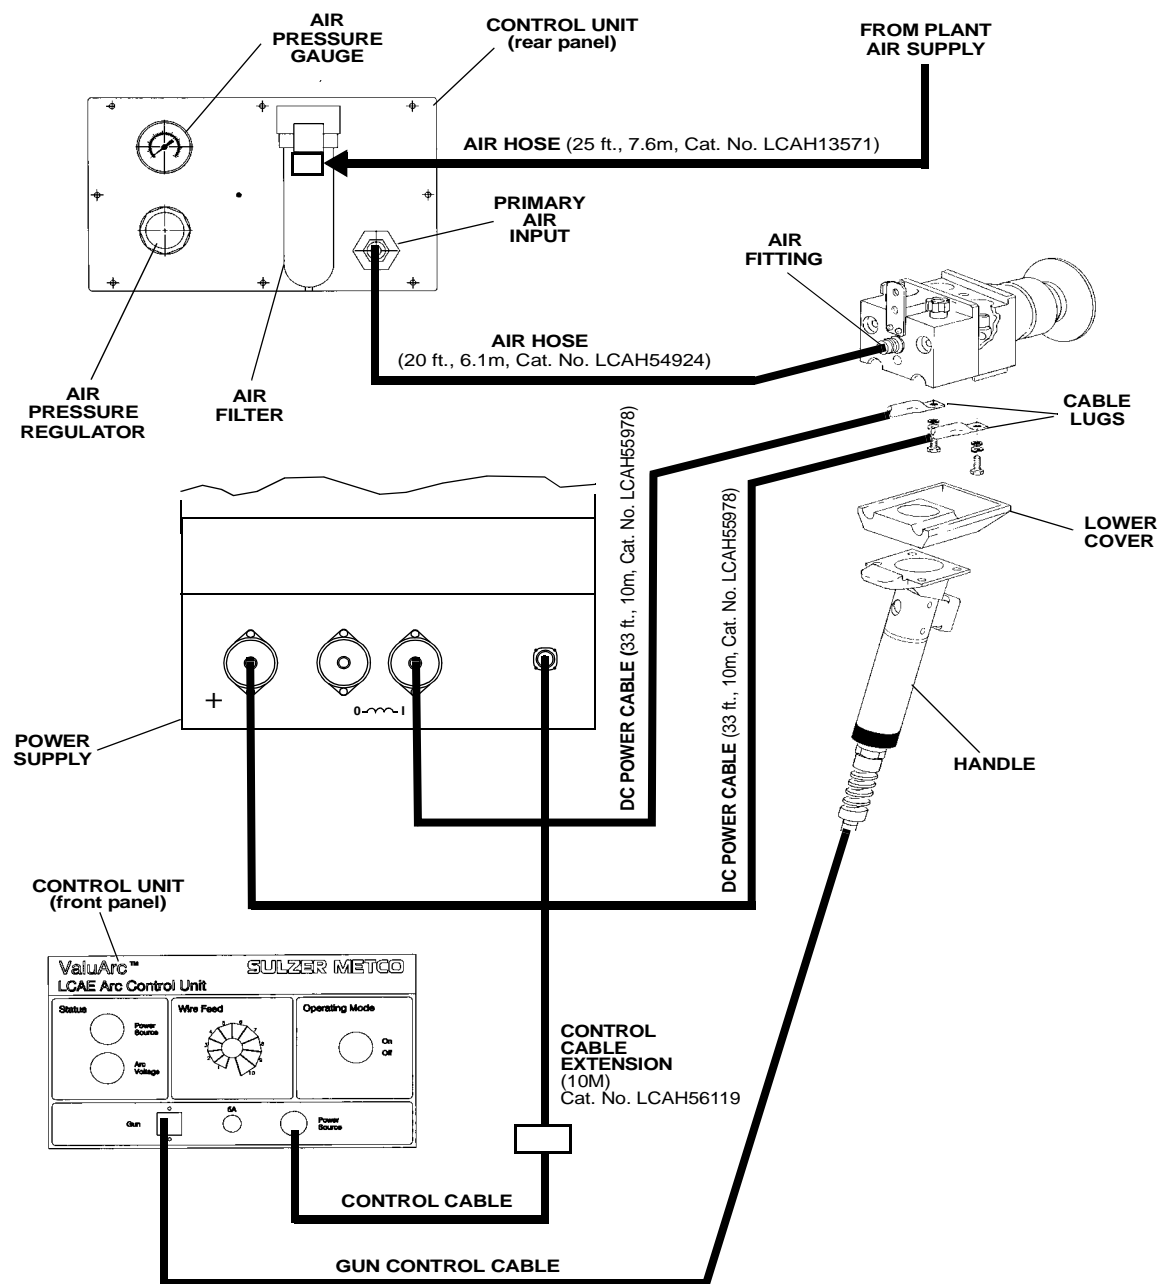

FIGURE 4.10 ValuArc 200/200E
5. Attach the free end of one DC power cable to the right electrode post using the bolts provided. Make sure cable lugs are oriented as shown in Figure 4.10.